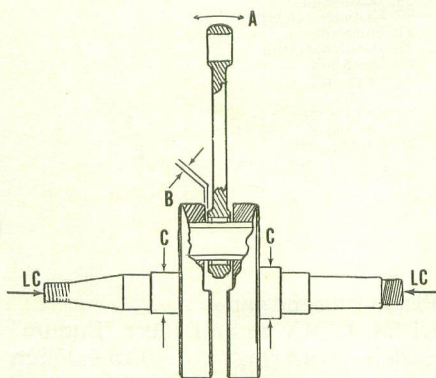

Fig. Y18-16—Crankshaft assembly should be supported on lathe centers (LC) when making checks for runout.
Crankshaft runout, measured on main bearing surfaces, should be no more than 0.03mm (0.0012 in.). Small end shake (A—Fig. Y18-16) should be no more than 2.0mm (0.078 in.). Side clearance (B) between large end of connecting rod and crank wheel should be 0.4-0.5mm (0.016-0.019 in.). Width of crankshaft, measured on flywheel outer faces, should be 50mm (1.968 in.) for 100cc models and 56mm (2.205 in.) for all other models.